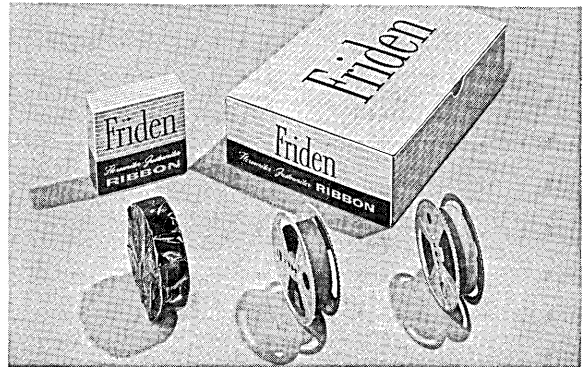

Figure 39. Friden Fabric Ribbons.
**Ribbons** (See figure 39) - Especially adapted to the high-speed operation of the Flexowriter. All fabric ribbons are tested for durability, clean reproduction, and fast ink recovery.